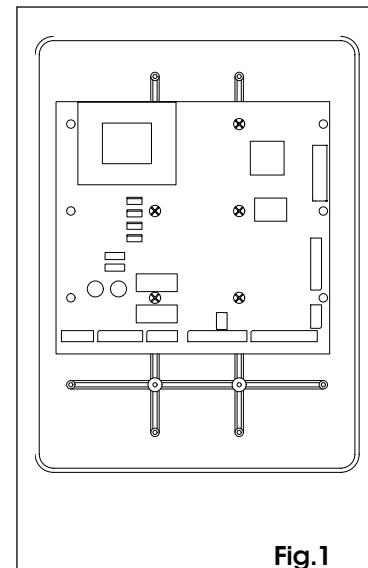

Fig.1
- To secure the control unit in the sealed enclosure, position it as shown in fig. 1 and secure it with 5 ø4.2x13 self-tapping screws (supplied), fitting the spacers between the card and the guides of the enclosure.